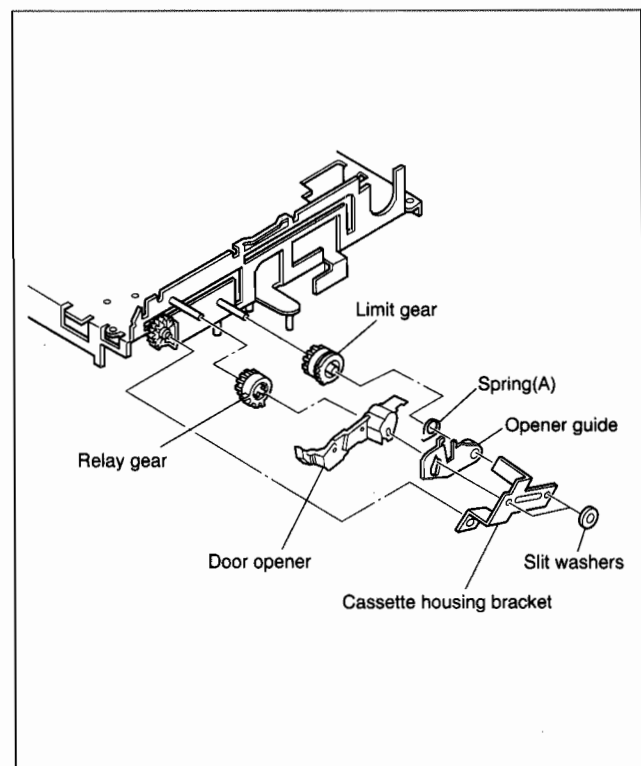

Fig. 2-2-3
(2) Remove the two slit washers and remove the cassette housing bracket. (See Fig.2-2-3.)
(3) Remove the opener guide, spring(A), door opener, relay gear and limit gear. (See Fig.2-2-3.)